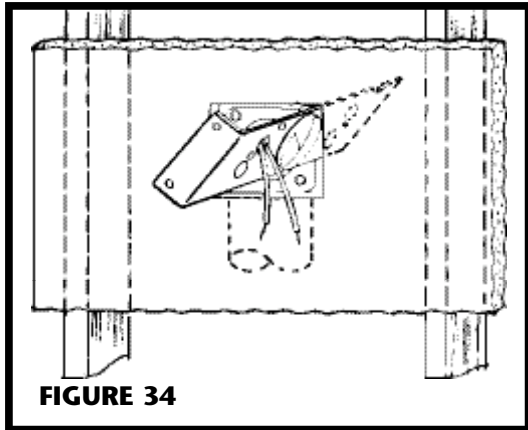

FIGURE 34
4. Remove plaster frame from mounting bracket. Pull low voltage wire through hole in bracket and insert bracket into cutout. Secure bracket to flanged fitting with four screws provided. Be sure seal is secure between flange fitting and mounting bracket (Figure 34).